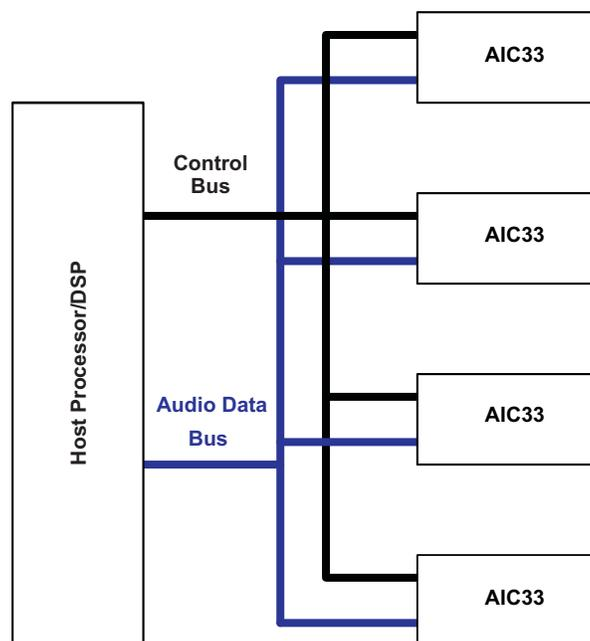
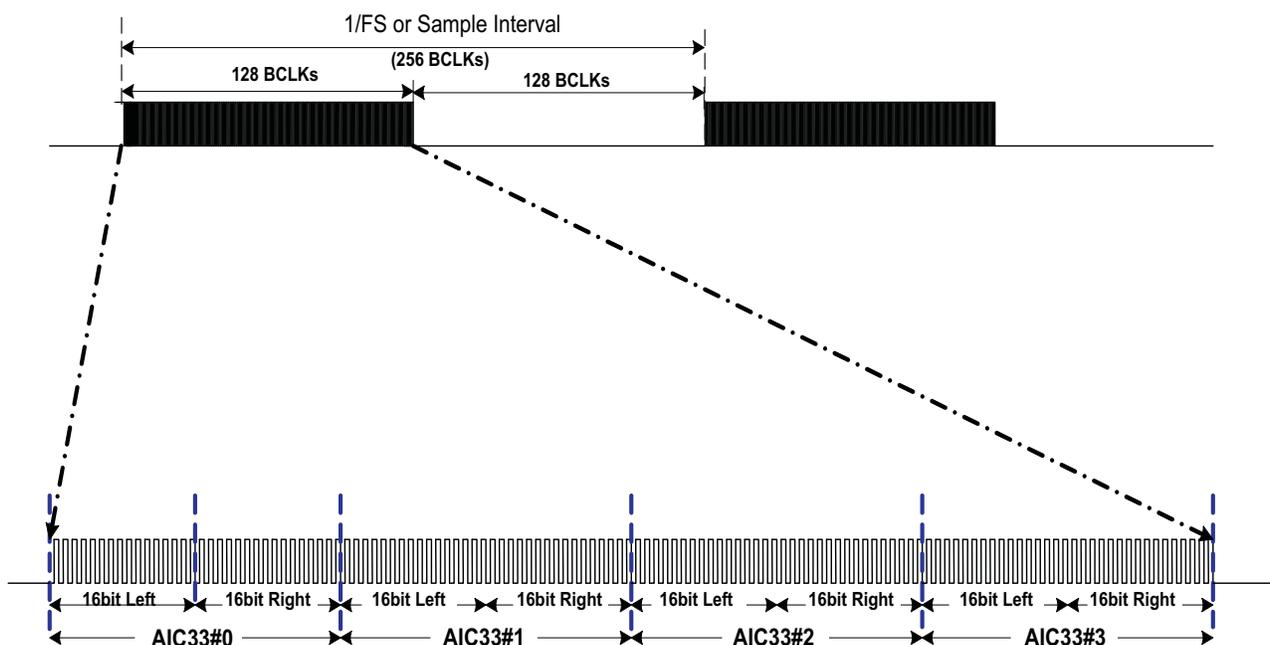

Figure 1. Four AIC33 Codecs Interfaced With a Single Host Processor/DSP
Figure 2. BCLKs for Four AIC33 Slots
With some applications, more than one AIC33 codec can be used and controlled by a single host processor. A multiple AIC33 system saves resources and simplifies the whole system. Figure 1 shows a block diagram of such a system.
This application report discusses how to set up, configure, connect, and run the system shown in Figure 1. The system has been tested using four TI AIC33 EVM boards and one TI USB-MODEVM board. One AIC33 codec is on each of the EVM boards; the host processor (a TI TAS1020B USB controller) is located on the USB-MODEVM board. See the SBAU114 user's guide for details on the AIC33EVM and AIC33EVM-PDK.
To implement the system shown in Figure 1, a host processor and four AIC33 devices are needed. This application report used one USB-MODEVM board and four AIC33EVM boards. The USB-MODEVM board is not individually orderable but is a part of TLV320AIC33EVM-PDK. Thus, to duplicate this application, the user needs to order three TLV320AIC33EVM, and one TLV320AIC33EVM-PDK that includes one TLV320AIC33EVM board and one USB-MODEVM board.
Certain steps are critical for setting up and running a four-AIC33 codec system. This section of this application report focuses on additional operation limitations or considerations for stacking four AIC33 EVMs to implement and operate the system shown in Figure 1.
During power up, the motherboard (USB-MODEVM) can draw about 100 mA by itself. During operation, the USB-MODEVM plus one AIC33 can require current of 200 mA or more. Therefore, it can be expected that the system shown in Figure 1 will require much higher current than 200 mA.
Figure 2 shows the timing of the TDM bus's bit clock, BCLK, where the system connection is the same as is shown in Figure 1 and the offsets of the four AIC33 devices are set up as shown in Table 2.
Note that this limitation is only for the AIC33EVM stacking system, but not for the general four-AIC33 system, as shown in Figure 1, because the audio outputs of the multiple codec system are not normally connected together .
- In order to share the same single audio data serial bus among the four AIC33 codecs, all codecs must work using the digital interface's TDM mode, with different offset bit settings. To build the system shown in Figure 1 using a USB-MODEVM and four-AIC33 EVM boards, you need to disable the connection for the audio data from the USB-MODEVM board, and to provide an external host processor with TDM interface to read/write the audio data from/to the four AIC33 devices.